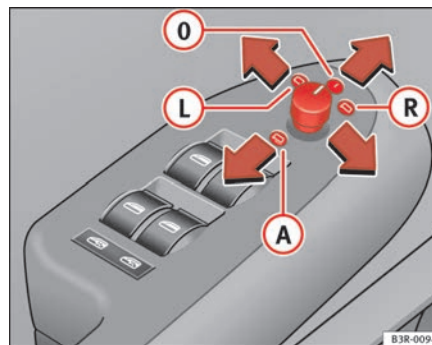

Fig. 103 Detailed view of the armrest: Adjuster knob
- Turn the adjuster knob to position ⇒ fig. 103 **L** (left exterior mirror) or position **R** (right exterior mirror).
When reverse gear is engaged, the mirror surface tilts slightly downwards, provided the mirror control is switched to the exterior mirror on the passenger's side (knob in position **R** ⇒ page 128, fig. 103). This provides a better view of the kerb when parking.